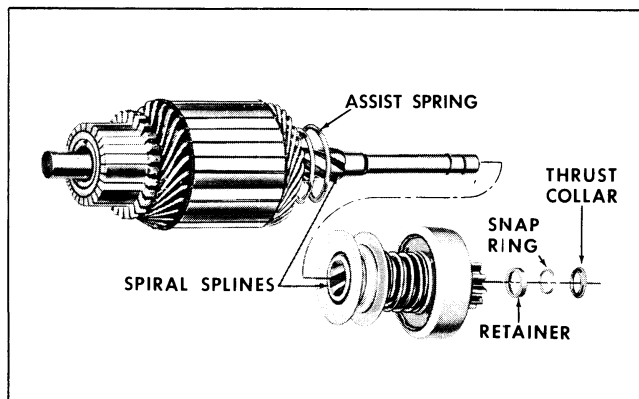

Fig. 11-5 Armature and Overrunning Clutch
- a. Slide thrust collar (Fig. 11-5) off end of armature shaft.